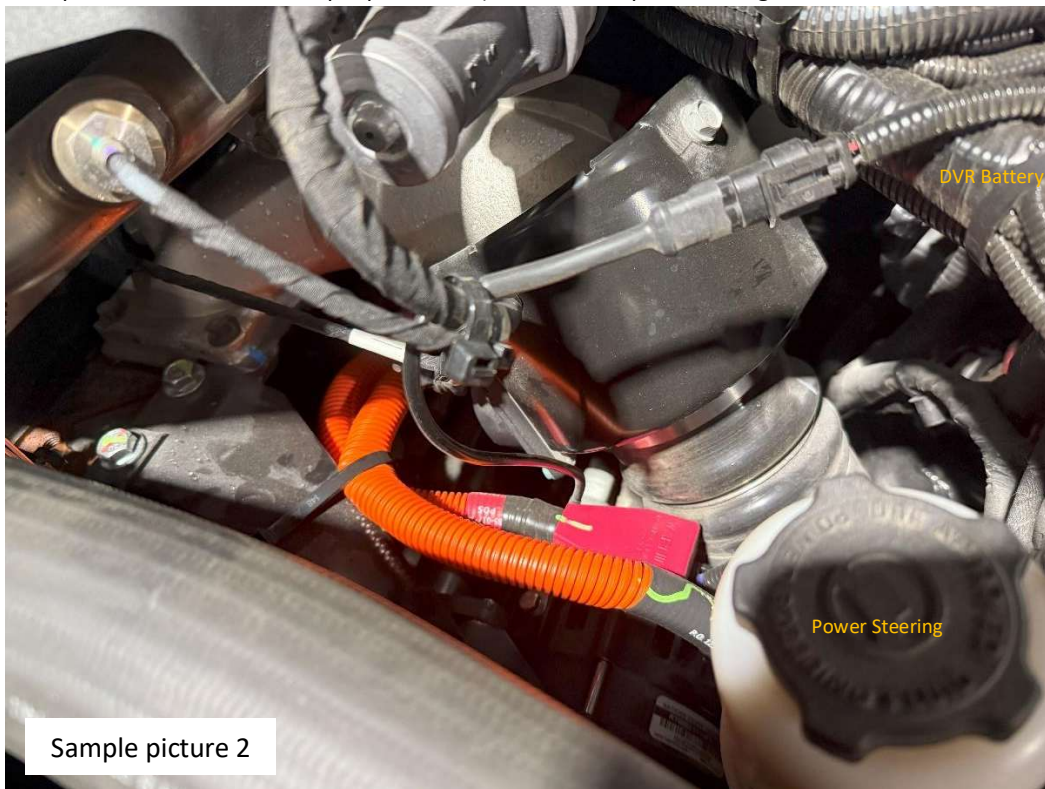

Figure 3
6. Disconnect the passenger's side negative battery terminal and secure with a zip tie (Figure 3)